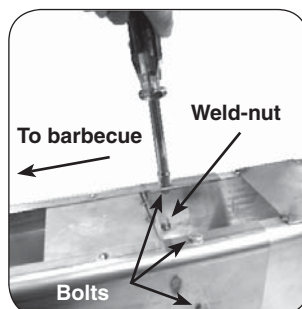

Fig. 8-3
five (5) bolt holes and tighten each using a 7/16" socket driver or wrench (see Fig. 8-3).